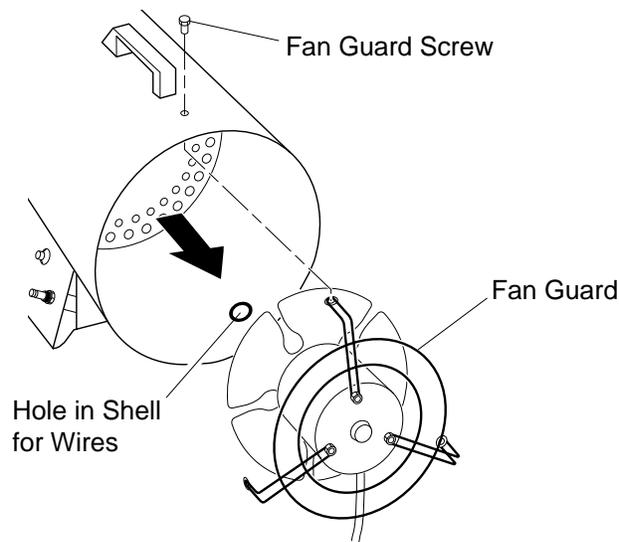

Figure 7 - Removing Motor and Fan Guard from Heater
4. Set heater on its base. Remove three screws that attach fan guard to heater shell (see Figure 7).
5. Remove motor and fan guard from heater shell. Carefully pull the motor wires from hole in shell (see Figure 7).